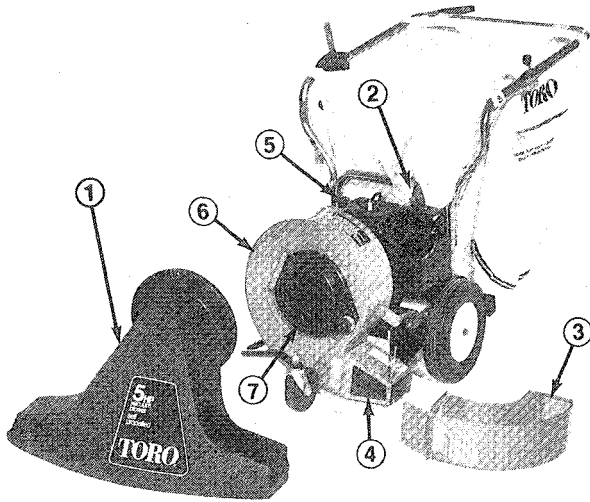

Figure 15.
1. Remove knob, washer and snout (Fig. 15).